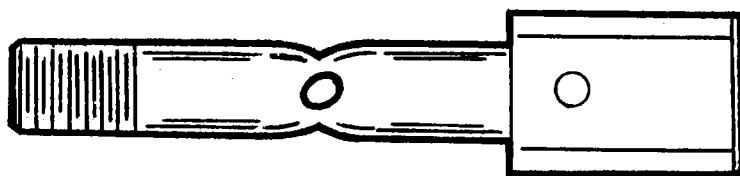

FIG. 2
15. Carefully inspect the sprocket stud, part number 20913-00, around the hole where the sprocket was attached and ascertain that the stud is not cracked or twisted and the hole is not elongated. (See Figure 2.)
16. After inspecting the sprocket stud, part number 20913-00, and replacing, if necessary, re-assemble in reverse (1) through (14). If part number 20913-00 or 20975-00 must be replaced, telephone the Service Department, Piper Aircraft Corporation, Lock Haven, Pennsylvania immediately.
18. Remove the four (4) screws from the control wheel shaft front bearing.
19. Mark the location of the two (2) screws in the control wheel shaft rear bearing and remove the screws.
20. Remove the two (2) cotter pins guiding the aileron cable mounted on the control wheel shaft center bearing.
26. Carefully inspect the sprocket stud around the hole where the sprocket was attached and ascertain that the stud is not cracked or twisted and the hole is not elongated. (See Figure 2.)
28. After inspection is completed, re-assemble in reverse (1) through (26).
12. Pull control column back until the two (2) roll pins in the forward end of the control wheel square shaft are exposed. In the event the square shaft has only one (1) roll pin and the end of the square shaft is peened, disregard paragraphs 13 through 20 and refer to paragraphs 21 through 31.
13. Examine the roll pins carefully to determine which end has been subjected to pounding. Remove the two (2) roll pins from the shaft with a drift punch the same diameter as the roll pin. Drive the roll pins out in the opposite direction from which they were originally driven into the shaft.
19. Carefully inspect the sprocket stud, part number 20913-00, around the hole where the sprocket was attached and ascertain that the stud is not cracked or twisted and the hole is not elongated. (See Figure 2.)
20. After inspecting the sprocket stud, part number 20913-00, and replacing, if necessary, re-assemble in reverse (1) through (18). If part number 20913-00 or 20975-00 must be replaced, telephone the Service Department, Piper Aircraft Corporation, Lock Haven, Pennsylvania immediately.
22. Remove the four (4) screws from the control wheel shaft front bearing.
23. Mark the location of the two (2) screws in the control wheel shaft rear bearing and remove the screws.
24. Remove the two (2) cotter pins guiding the aileron cable mounted on the control wheel shaft center bearing.
30. Carefully inspect the sprocket stud around the hole where the sprocket was attached and ascertain that the stud is not cracked or twisted and the hole is not elongated. (See Figure 2.)
32. After inspection is completed, re-assemble in reverse (1) through (29).